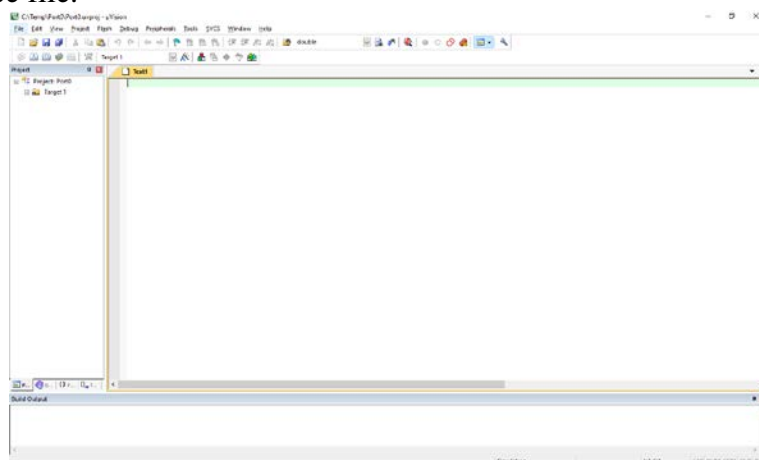

Figure 4
5. You have created a new project but the project has no files in it. To create a new file for your project click on *File*→*New*. This will give you a screen containing a new *text* file as shown in Figure 4. Save this file using the *File*→*Save As* menu with the name `port0.a51`. The extension `.a51` means that this file will become a new assembly language source file.